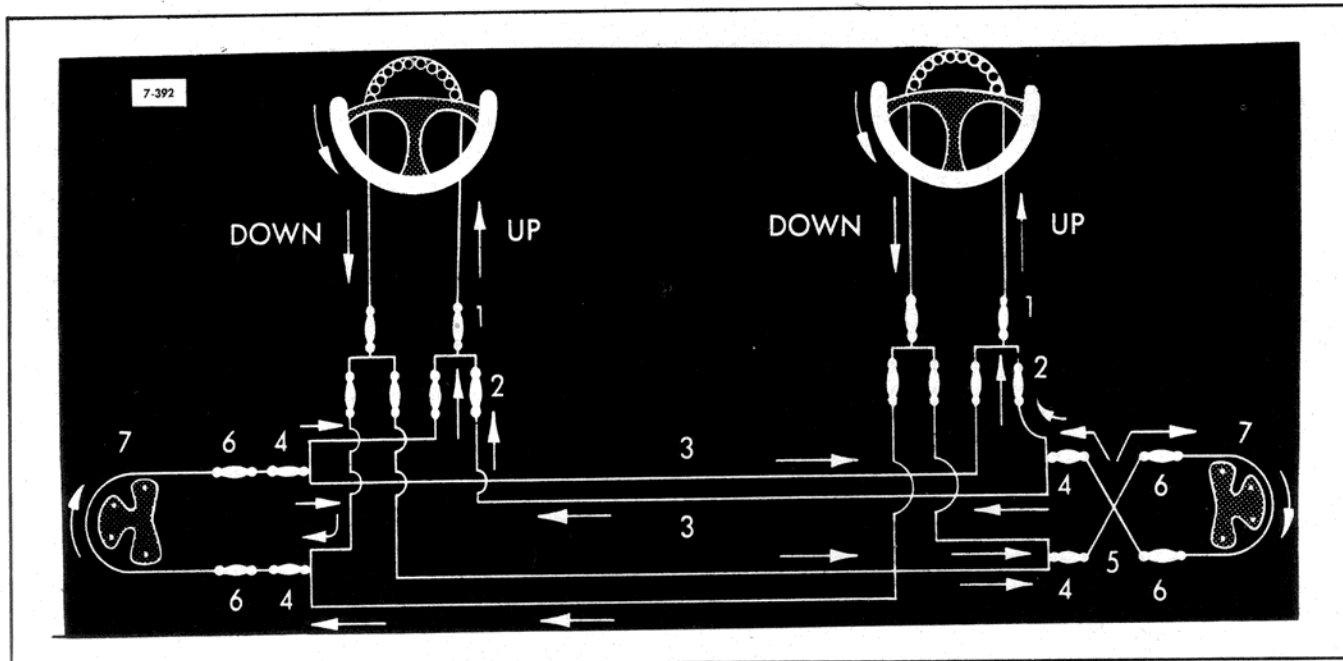

Figure 239—Aileron Control Diagram (Schematic)
1. Figure 239 supplements the aileron control system diagram and clarifies the rigging procedure references. The schematic diagram (figure 239) is described as follows:
- The first set of single turnbuckles (1) is in the space between the cockpit wall and the skin.
- The first set of bus line turnbuckles connections (2) is in the bomb bay next to the compression rib truss.
- Aft of bulkhead 5 the cables (3) travel through the fuselage into the wings.